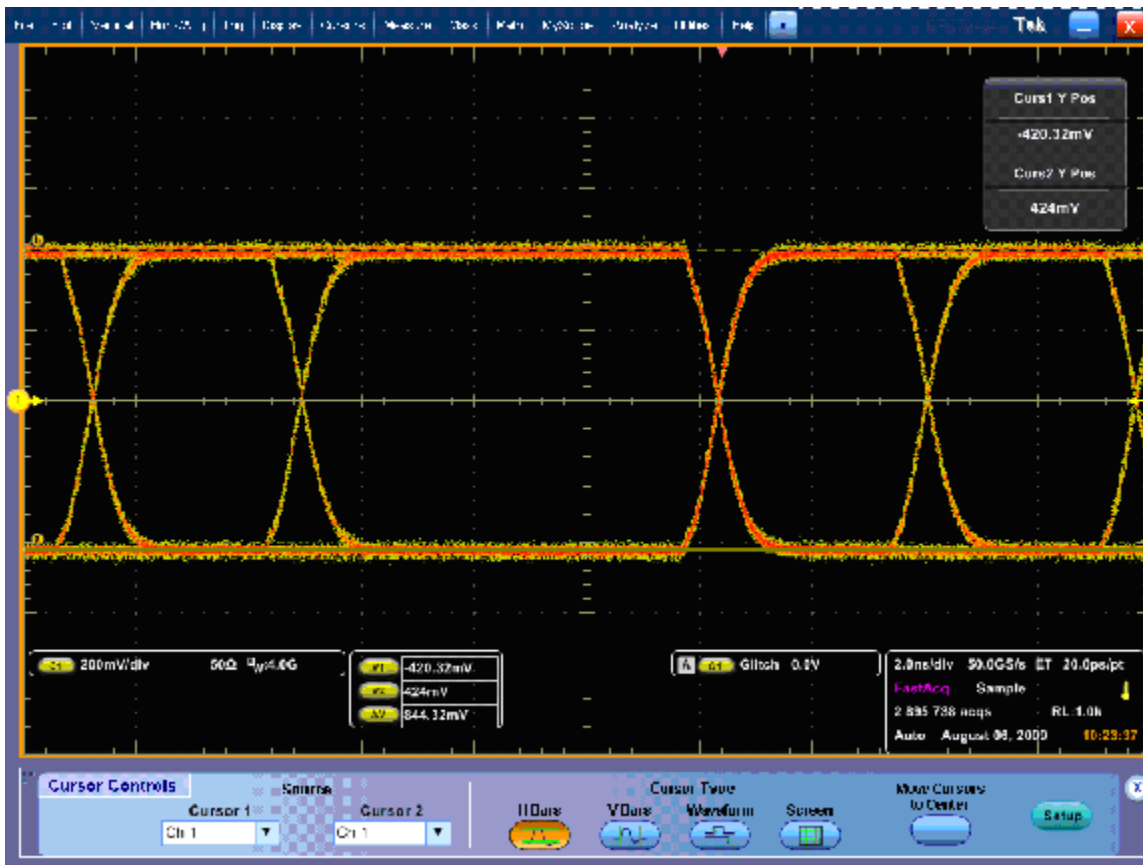

Figure 1: Serial Output at 270 Mb/s, using Glitch Trigger mode
- Connect a second cable from the Slot 1 SDI A Out to CH 1 of the test oscilloscope. A waveform should be observed on the test oscilloscope. (See Figure 1.).